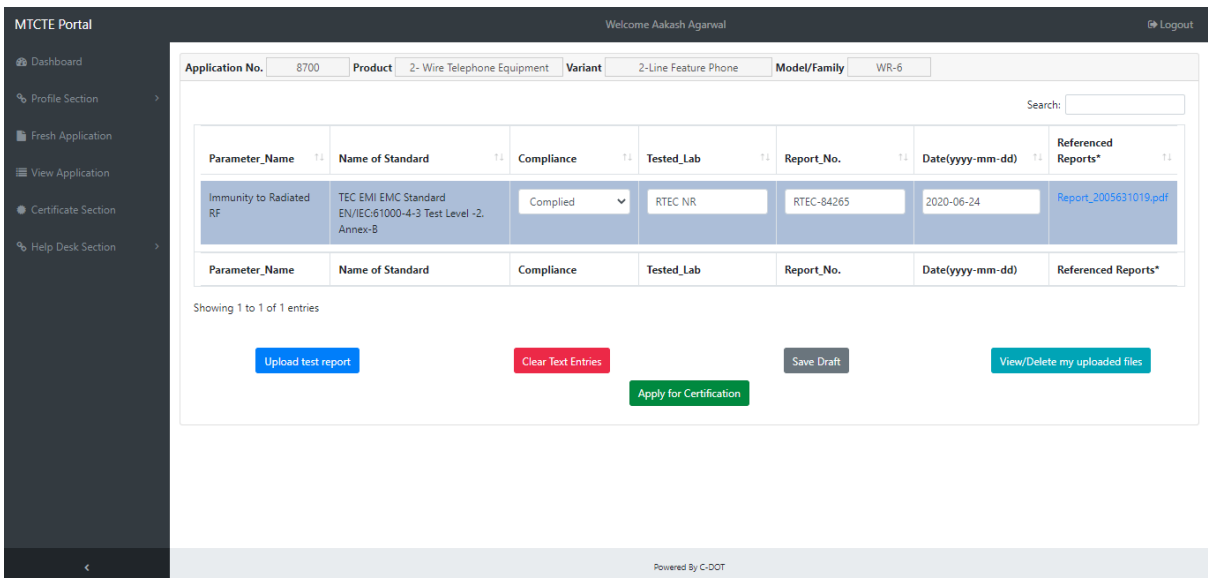

Fig. 60: List of Exempted Parameters
b) Compliance sheet will be opened on the next page and list of Exempted parameters will be shown. Applicants have to fill the Compliance sheet and upload the Test Reports against the each Exempted Parameters. After filling all the details click on **Apply for Certification** (Fig. 60).